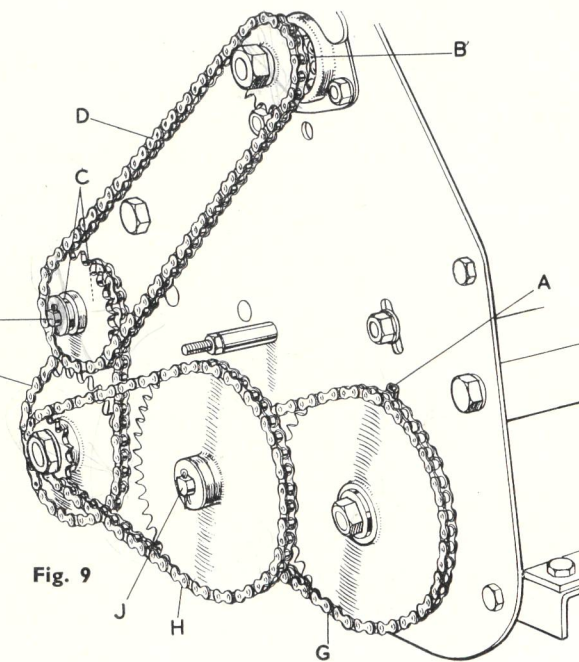
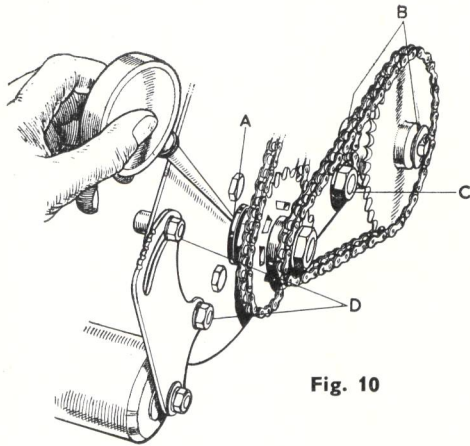
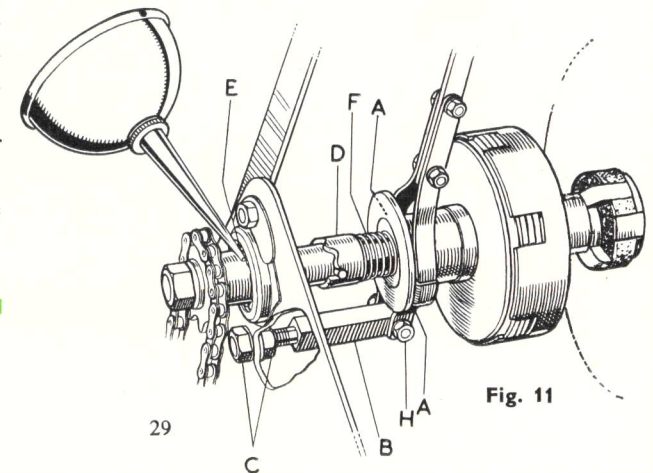

Fig. 9
Fig. 10
Fig. 11
Remove chain cover. A few drops of oil fortnightly on each chain. A few drops of oil fortnightly in oil tube (A, Fig. 9) to rear roller shaft bearing, between the
sideframe and cupped disc (A, Fig. 10) to cutter shaft bearing (B, Fig. 9 and E, Fig. 11). A few drops of oil should also be given to each side of both intermediate chain wheels (B, Fig. 10 and C, Fig. 9) fortnightly.
1. A smear of grease weekly on the clutch operating forks, between the pads of operating forks and the withdrawal collar (A, Fig. 11), this ensures the machine drawing backwards freely.
2. A few drops of oil weekly on the clutch spring (F, Fig. 11) and the clutch lever pivot pin (H, Fig. 11).
NOTE. It is unnecessary and also undesirable to slack off the main nuts (C, Fig. 10) which form the pivot of the bottom blade bearer. As wear takes place, the bottom blade has to be brought up to the cutters. Two arms (B, Fig. 13) from the bottom blade bearer terminate in screw adjusting brackets (D, Fig. 13) fixed on the inside of
The adjustment, which is undertaken with the clutch over in the 'IN' position (Fig. 3) is very simple to make and is done by adjusting the fulcrum pin (B, Fig. 11) at the lower end of the clutch lever. This is adjusted by means of two nuts (C, Fig. 11), one on either side of the side frame to which it is fixed. When in proper adjustment the operating lever should have approximately $\frac{1}{2}$ in. of free movement in the gate before the pads are in close contact with the with-
drawal collar on the clutch. Should the clutch "slip" after prolonged use, the notched collar (D, Fig. 11) behind the clutch spring, should be turned to the next notch in order to increase the spring pressure.
To adjust the tension of the chains from clutch shaft to intermediate shaft (D, Fig. 9) and intermediate shaft to cutter (E, Fig. 9) slacken the intermediate shaft (F, Fig. 9) nut (on inside of side frame) and raise intermediate shaft slightly to tighten chains, and lower slightly to slacken chains. Lock up nut tightly. To adjust the tension of the chains from rear roller to intermediate shaft (G, Fig. 9), and from intermediate shaft to cutter (H, Fig. 9), slacken the intermediate shaft (J Fig. 9) nut (on inside of side frame) and raise intermediate shaft slightly to tighten chains, and lower slightly to slacken chains. Lock up nut tightly.
Remove chain cover. A few drops of oil fortnightly on each chain. A few drops of oil fortnightly to each side of intermediate chainwheels (B, Fig. 10 and C, Fig. 9) and clutch shaft bearing (E, Fig. 11).